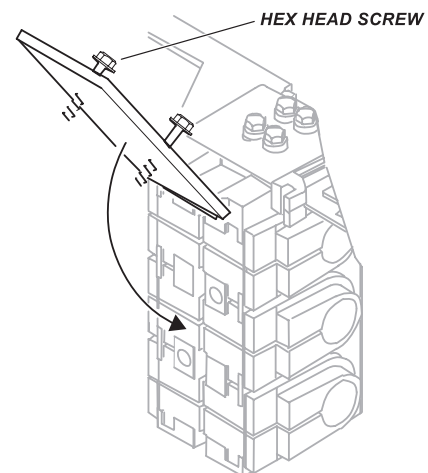

FIGURE 4—Closing Grommet Door.
- 6.05 Close grommet door assembly and tighten the two (2) hex-heads fasteners. Refer to Figure 4.